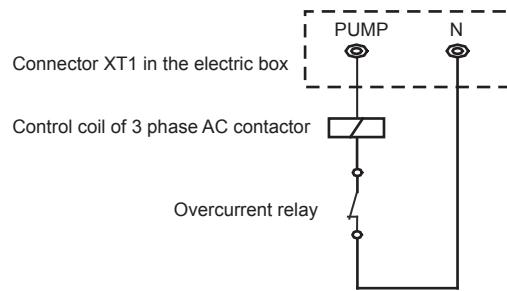

Fig. 8-22-4
- Step 12. HTW-MCSU90RN1L Connection of control wires of pump: the control wires of AC contactor of pump must pass the connection terminals PUMP and N of the connector XT1 in the electric box of the unit, as shown in Fig. 8-22-4.